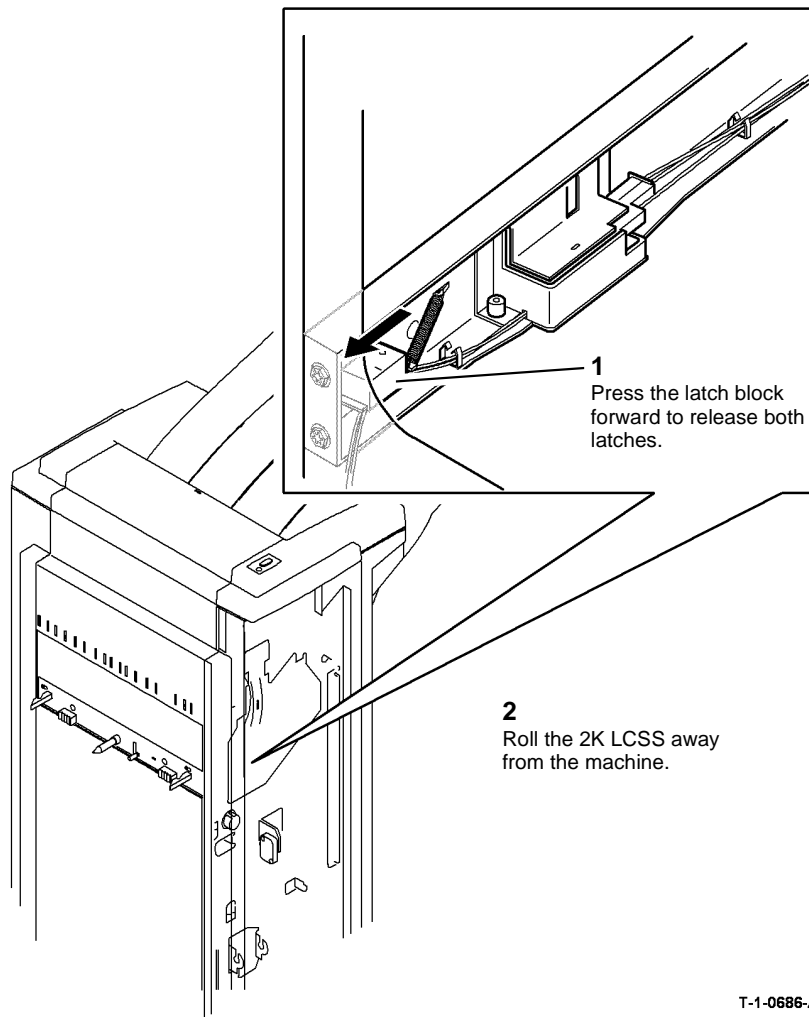

Figure 1 2K LCSS link bracket assembly
3. Release the 2K LCSS link bracket assembly, Figure 1.